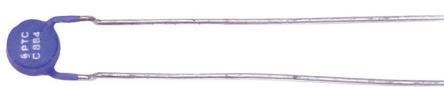
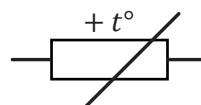

Figure 8.8a A PTC thermistor
Figure 8.8b Symbol of a PTC thermistor
- Positive temperature coefficient (PTC) thermistors** have resistances that increase with temperature. Figure 8.8a and Figure 8.8b show a photo of a PTC thermistor and its symbol, respectively.